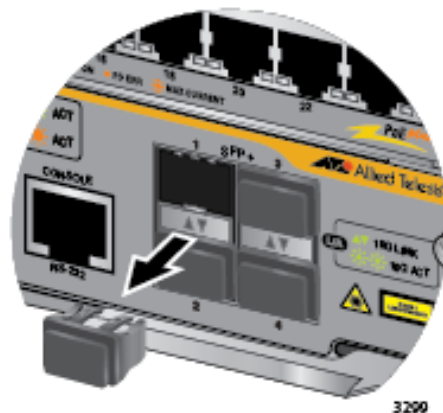

Figure 108. Removing a Dust Cover from an SFP+ Slot in the AT-SBx81CFC960 Controller Fabric Card
1. Remove the dust plug from the slot chosen for the SFP+ transceiver. Refer to Figure 108 on page 183.
1. Remove the dust plug from one of the SFP+ slots. You may install AT-SP10TW Cables in any of the SFP+ slots on the controller card. Refer to Figure 108 on page 183.